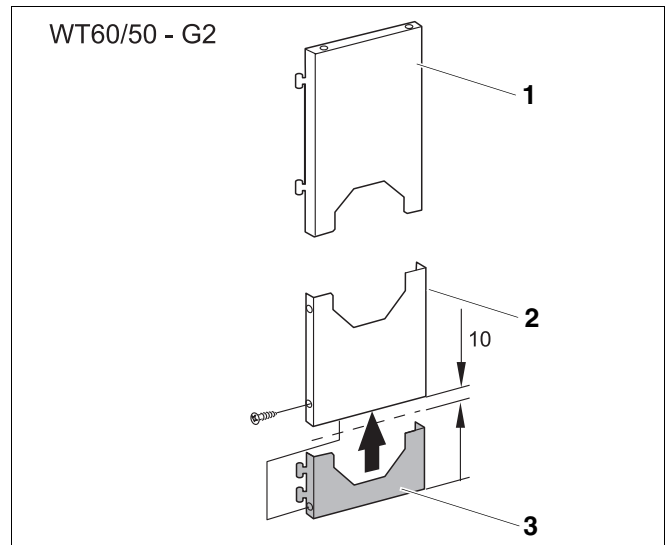

Fig. 17 Preassembling front panel (WT60-S1 and WT50-S2)
- Preassemble lower front panel and screw together using 2 self-tapping screws (Fig. 17).
- Push lower edge of part shown (Fig. 17, **Item 2**) over the inner part (Fig. 17, **Item 3**) up to the dotted line, until the holes in the folded edge overlap.